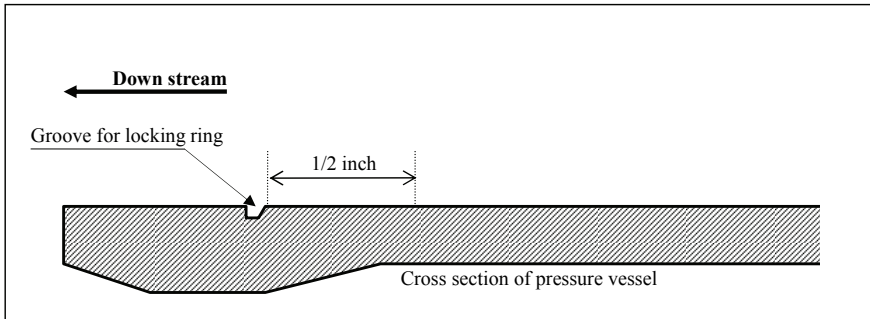

Figure 3
4. Work O-ring lubricant glycerin into the shell from half way up the bevel to approximately 1/2" in from the bevel. (See Figure 3)